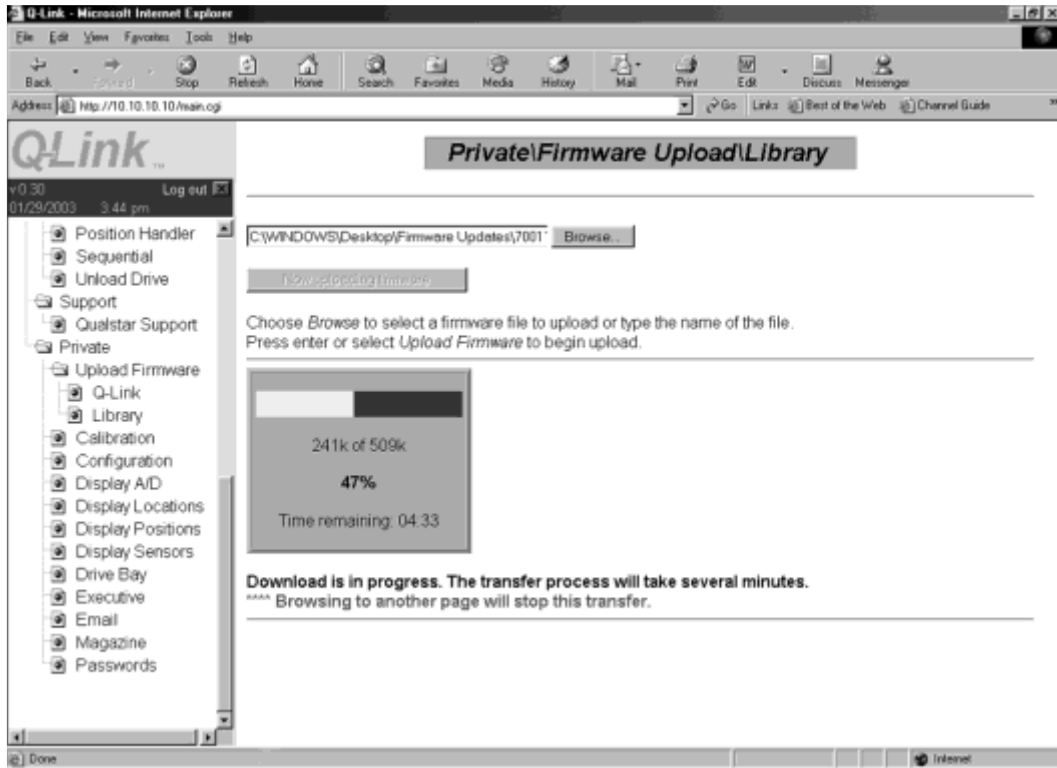
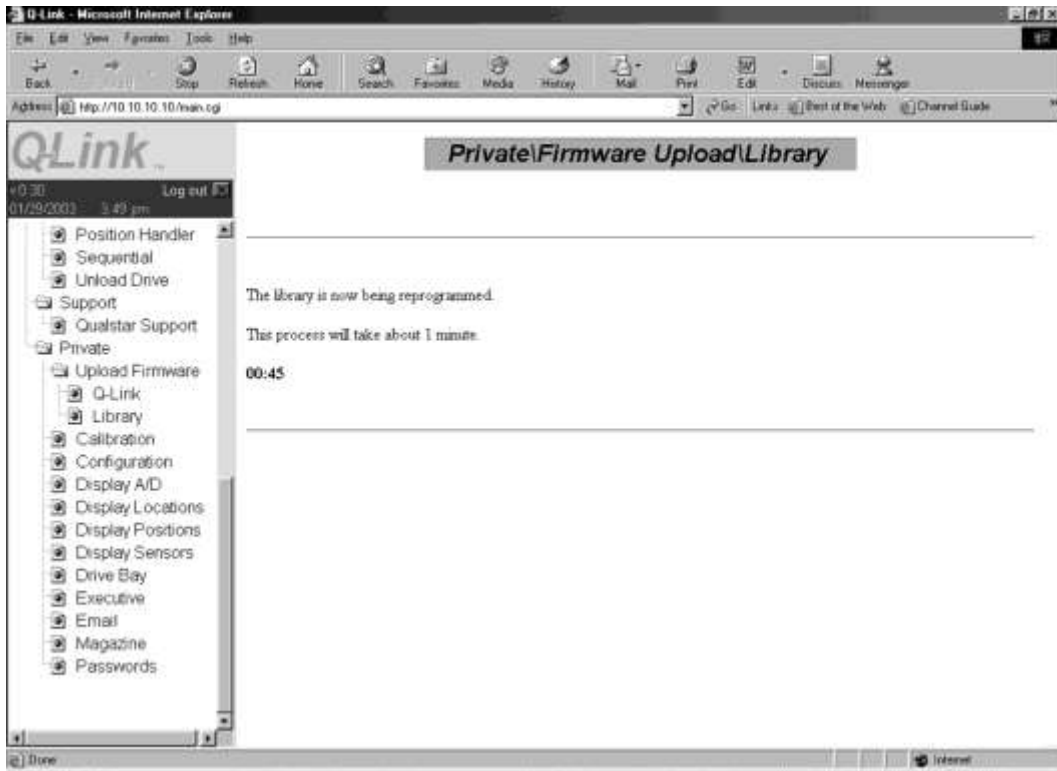

Figure 8-2 Sample of the Library Firmware Upload Progress Screen
Figure 8-3 Sample of the Library Firmware Reprogramming Progress Screen
4. Two different screens will appear as the uploading process proceeds. See Figure 8-2 and Figure 8-3.